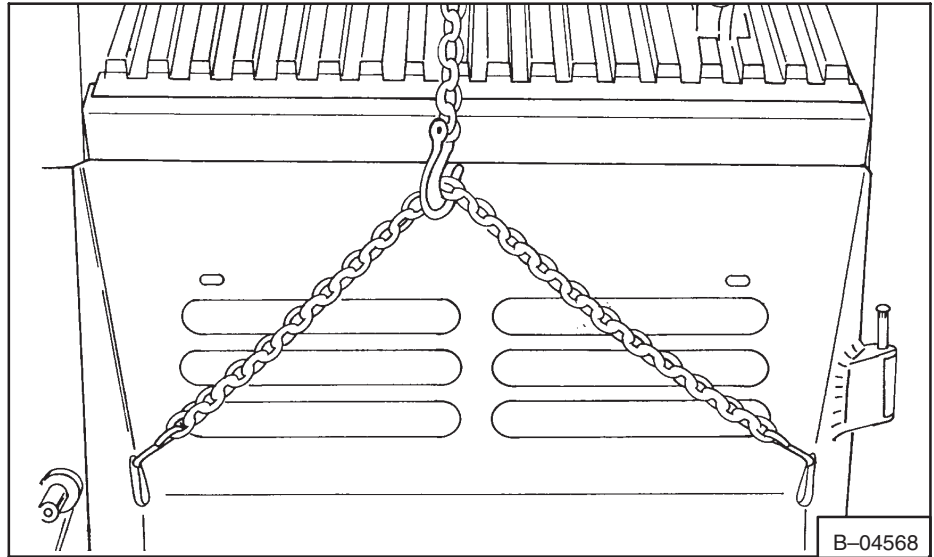

Fig. 5-44 Installing Chain Hoist
2. Install a chain hoist on the rear door (Fig. 5-44).